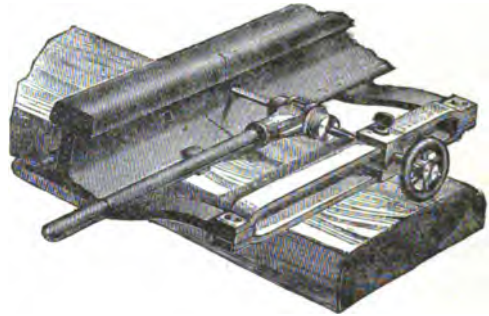

FIG. 23. RATCHET-DRILLS.
**Ratchet Drills** are used to bore holes in the rails. The best forms are covered by patents, and are supplied with automatic feed, so that one man can operate them. A good sample is shown in Fig. 23, by which any hole can be drilled, or if necessary, all four at one setting of the clamp. This clamp should be of such form as to grip the foot and not the head of the rail, in order not to be in the way of passing trains.